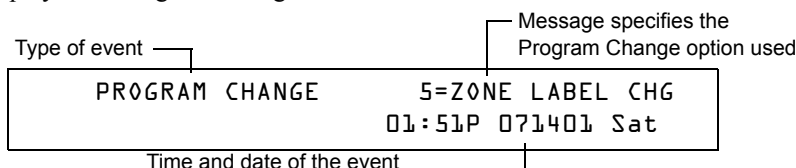

Figure 34 Sample Program Change Event Display
- Programming entries (Program Change and Status Change, but not Read Status), along with a number (0-9) indicating the programming submenu (for example, 0=Clear). For an example, see Figure 34.